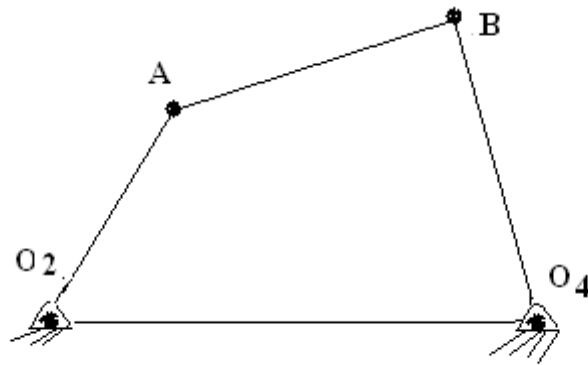

Figure 10:
5. Make a complete inertia force analysis for the four-bar mechanism shown in figure 10 below, the following data is given.